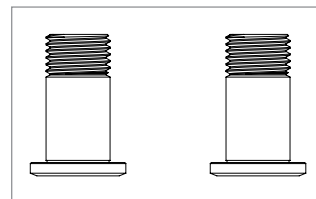

Figure 3 – 3731 SS Pivot Mount Bolt Kit
- 3731 SS Pivot Mount Bolt Kit (Fig. 3)